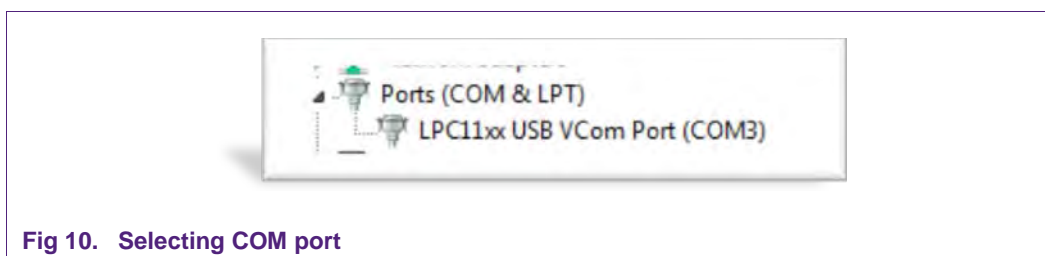

Fig 10. Selecting COM port
- b. Check Port: e.g., NXP LPC Vcom Device (COM3) → COM3 (as shown in Fig 10).